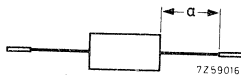

Fig. 2 Mounted to solder tags.
2. Thermal resistance from junction to ambient when mounted to solder tags at a lead length  $a = 10$  mm; Fig. 2